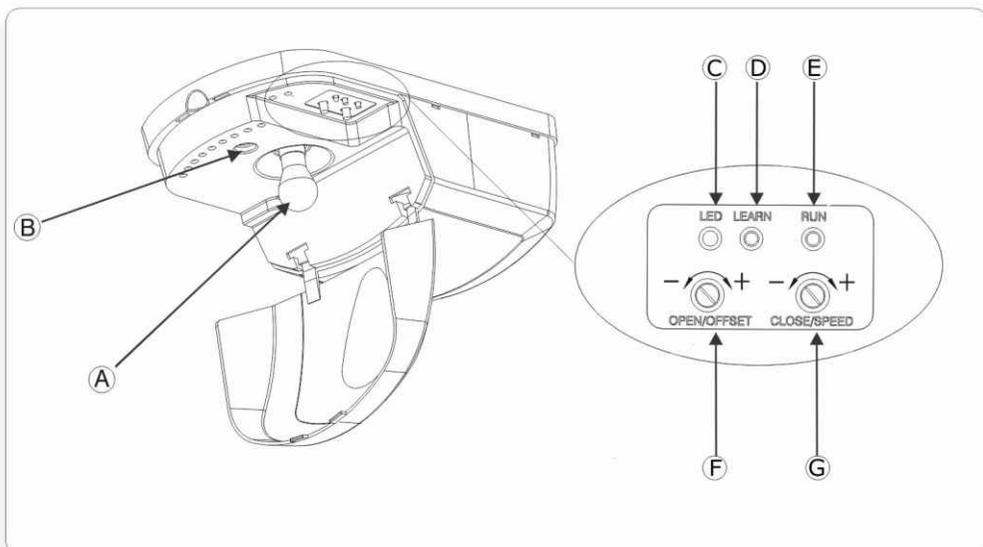

FIGURE 19. XTRAC CONTROL BOX
- Hinge open the Lamp Cover (Figure.19-A) to expose the adjustment controls
- With the garage door in the fully closed position - press the black "Run" Button (Figure.19-G) so that the garage door begins movement in the open direction
- As the garage door is opening slowly turn the (green) Open / Offset Adjustment Pin (Figure.19-G) in an anti-clockwise direction until the garage door stops
- Press the black "Run" Button (Figure.19-G) so that the garage door begins to open
- With the garage door in the fully open position, press the black "Run" Button (Figure.19-F) so that the garage door begins to close
- As the garage door is closing - slowly turn the (red) Close / Speed Adjustment Pin (Figure.19-F) in an anti-clockwise direction until the garage door stops and begins to Safety Reverse
- If the **XTrac** stops but does not reverse then turn the (red) Close / Speed Adjustment Pin five degrees in an anti-clockwise direction. (Figure.19-F)
- Will display green when power supply is active (Figure.19-C)
III. remove the Control Box cover Lock Screw point (Figure.19-B) Note: the Control Box Cover can be removed once the head of the screw is protruding by approximately 5mm.
- Hinge open the Courtesy Lamp Cover to expose the bulb (Figure.19-A)
- The "Learn Button" (Figure. 19-D) is located within the Lamp Cover adjacent to the "Learn LED" and serves to initiate the functions as described in the following table: